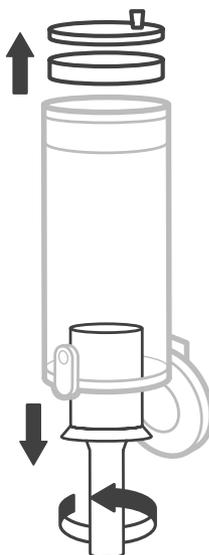

Figure 3.2
4. Rotate the metal filter counterclockwise to remove it. [Figure 3.2]